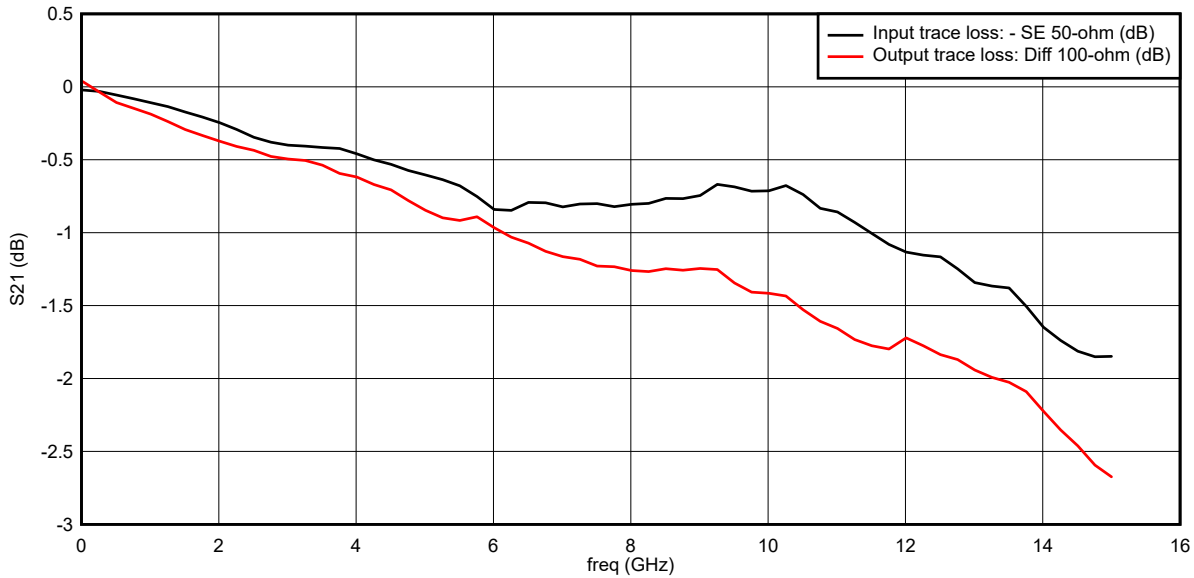

Figure 3-2. PCB Trace Loss vs Frequency
4. Note the importance to account for board trace losses at the input and output side of the device during gain measurements. Figure 3-2 shows the typical input and output trace losses measured on the EVM.